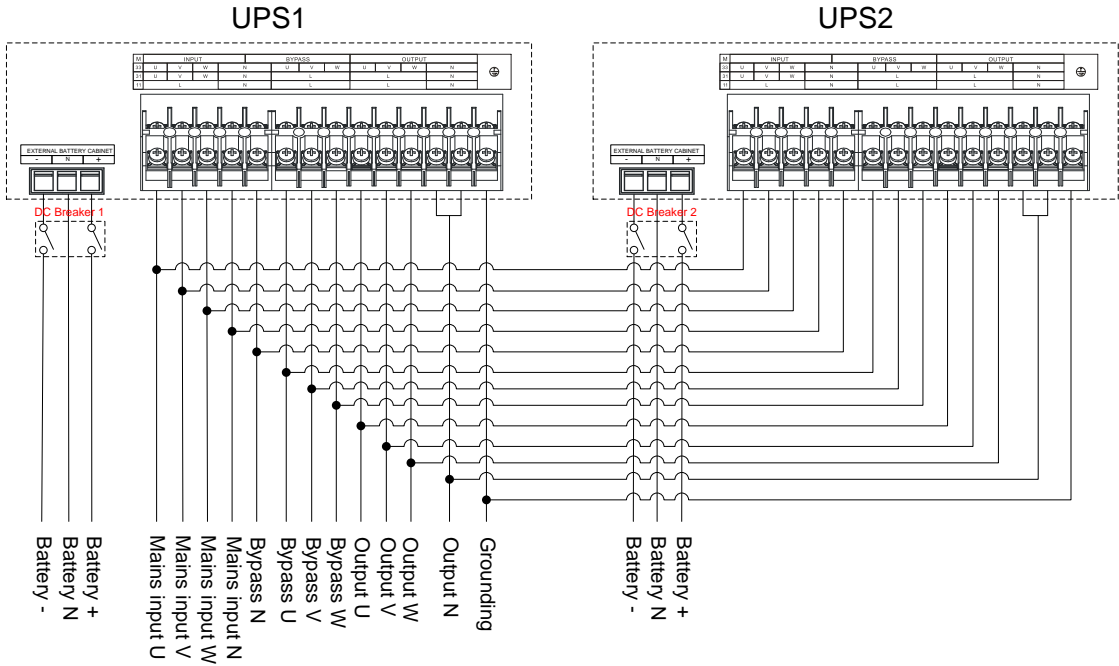
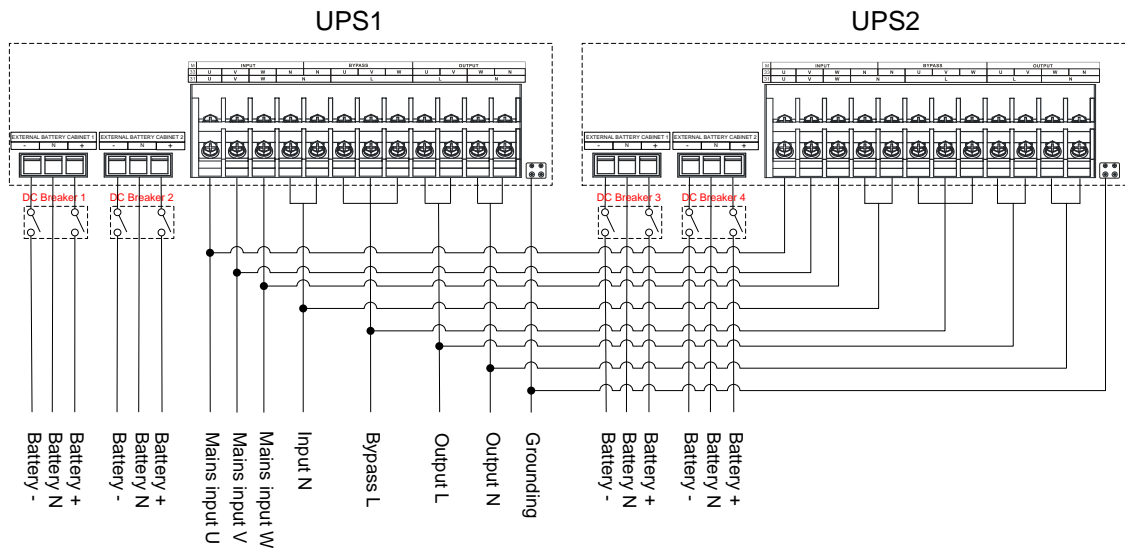

Figure3-25 10/10S/15/15S/20/20S wiring diagram of 33 mode parallel system
Figure3-29 30/30S/40/40S wiring diagram of 31 mode parallel system
- Step 2 Connect the wires of input, bypass, output and battery in parallel system on the basis of Figure3-25 to Figure3-29.